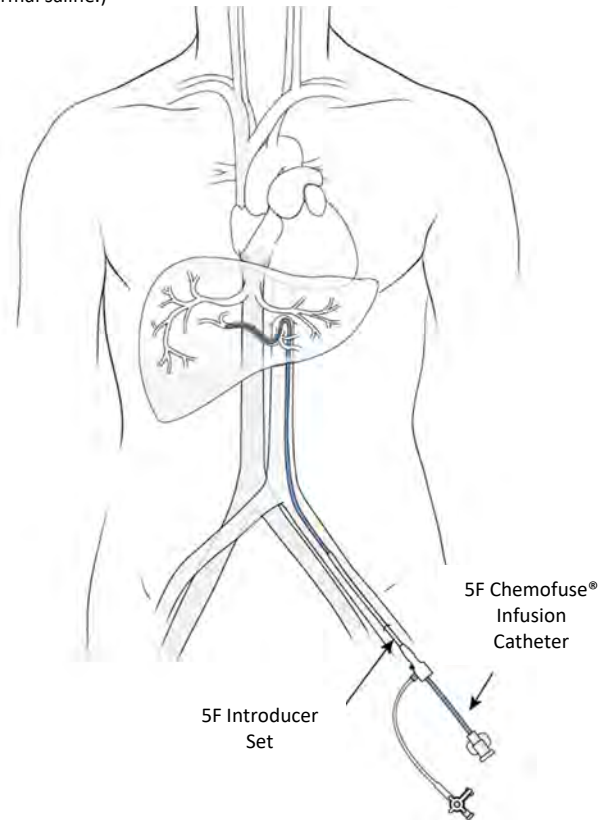

Figure 25
- (a) Introduce the 5F Chemofuse® catheter through the sheath and manipulate it over a guidewire into the proper hepatic artery, see Figure 25. At the discretion of the Interventional Radiologist, a microcatheter may be coaxially introduced through the 5F catheter for selective catheter tip placement for drug infusion. If a microcatheter is used, attach a rotating hemostatic valve (Touhy-Borst type) to the 5F catheter and insert the microcatheter into the 5F catheter through the valve. Three microcatheters have been qualified by Delcath for use with the CHEMOSAT® Hepatic Delivery System. Select one of the three microcatheters qualified (see Description of System Components (pg. 6)).